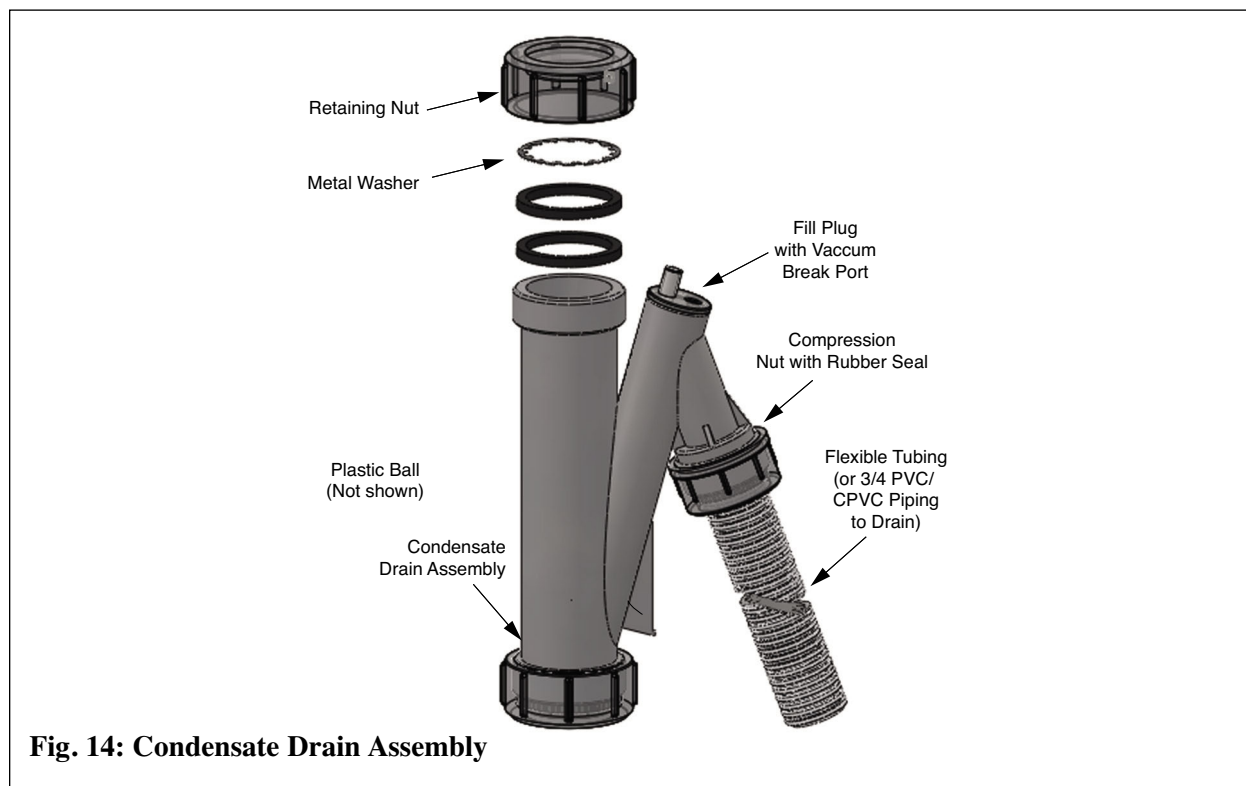

Fig. 14: Condensate Drain Assembly
1. Locate the condensate drain assembly and ensure the metal washer is installed as shown in Fig. 14 on page 25.